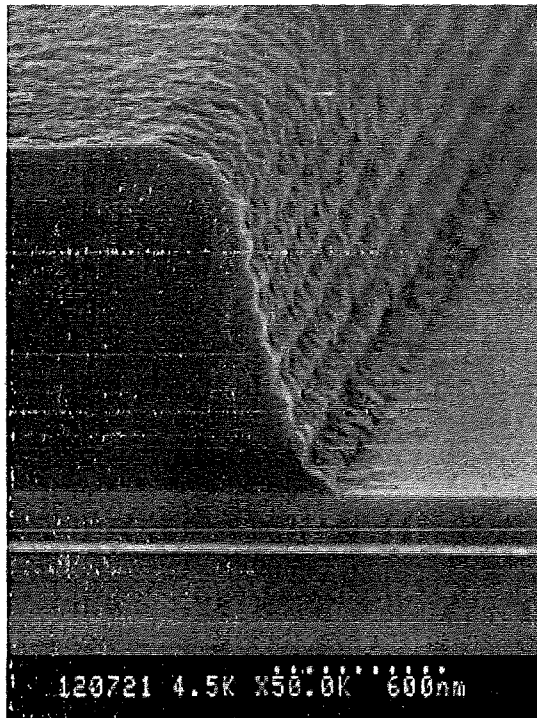

Figure 2: Effect of standing wave on photoresist.
- (ii) Figure 2 shows one type of defects commonly seen in photolithograph process as a result of the effect of standing wave. Discuss the formation of this profile on the photoresist. Suggest one approach that we can use to minimize this problem.